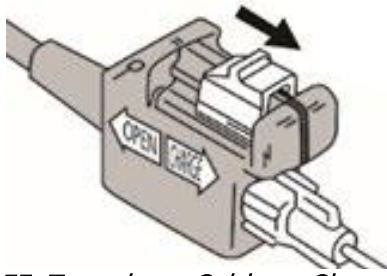

Figure 177: Transducer Cables – Charge Position
6. Switch the transducer to the **CHARGE** position (Figure 177).